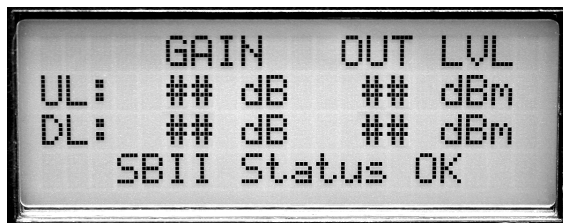

Figure 6: Normal Operational LCD Display.
- 5) The LCD display should appear similar to **Figure 6** after the self check is complete.
Once the boot-up sequence is completed (after several seconds) the LCD screen will switch to the main status display as shown in figure 6. This is the normal display for the signal booster. The system will return to this display from any other display if none of the menu interface buttons are pressed within 2 minutes. The exception is the OLC status